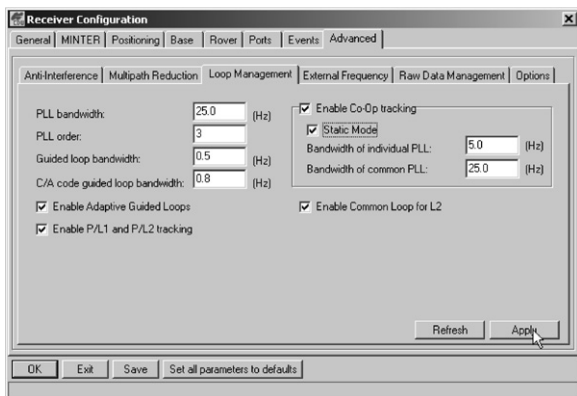

Figure 2-10. Advanced Configuration – Loop Management
6. Click the **Loop Management** tab, enable the following boxes, and click **Apply** (Figure 2-10):